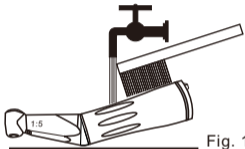

Fig. 18.4
- Scrub dirt and debris from the handpiece, and wipe clean with alcoholic cotton. Do not use a wire brush (Fig. 18.4)